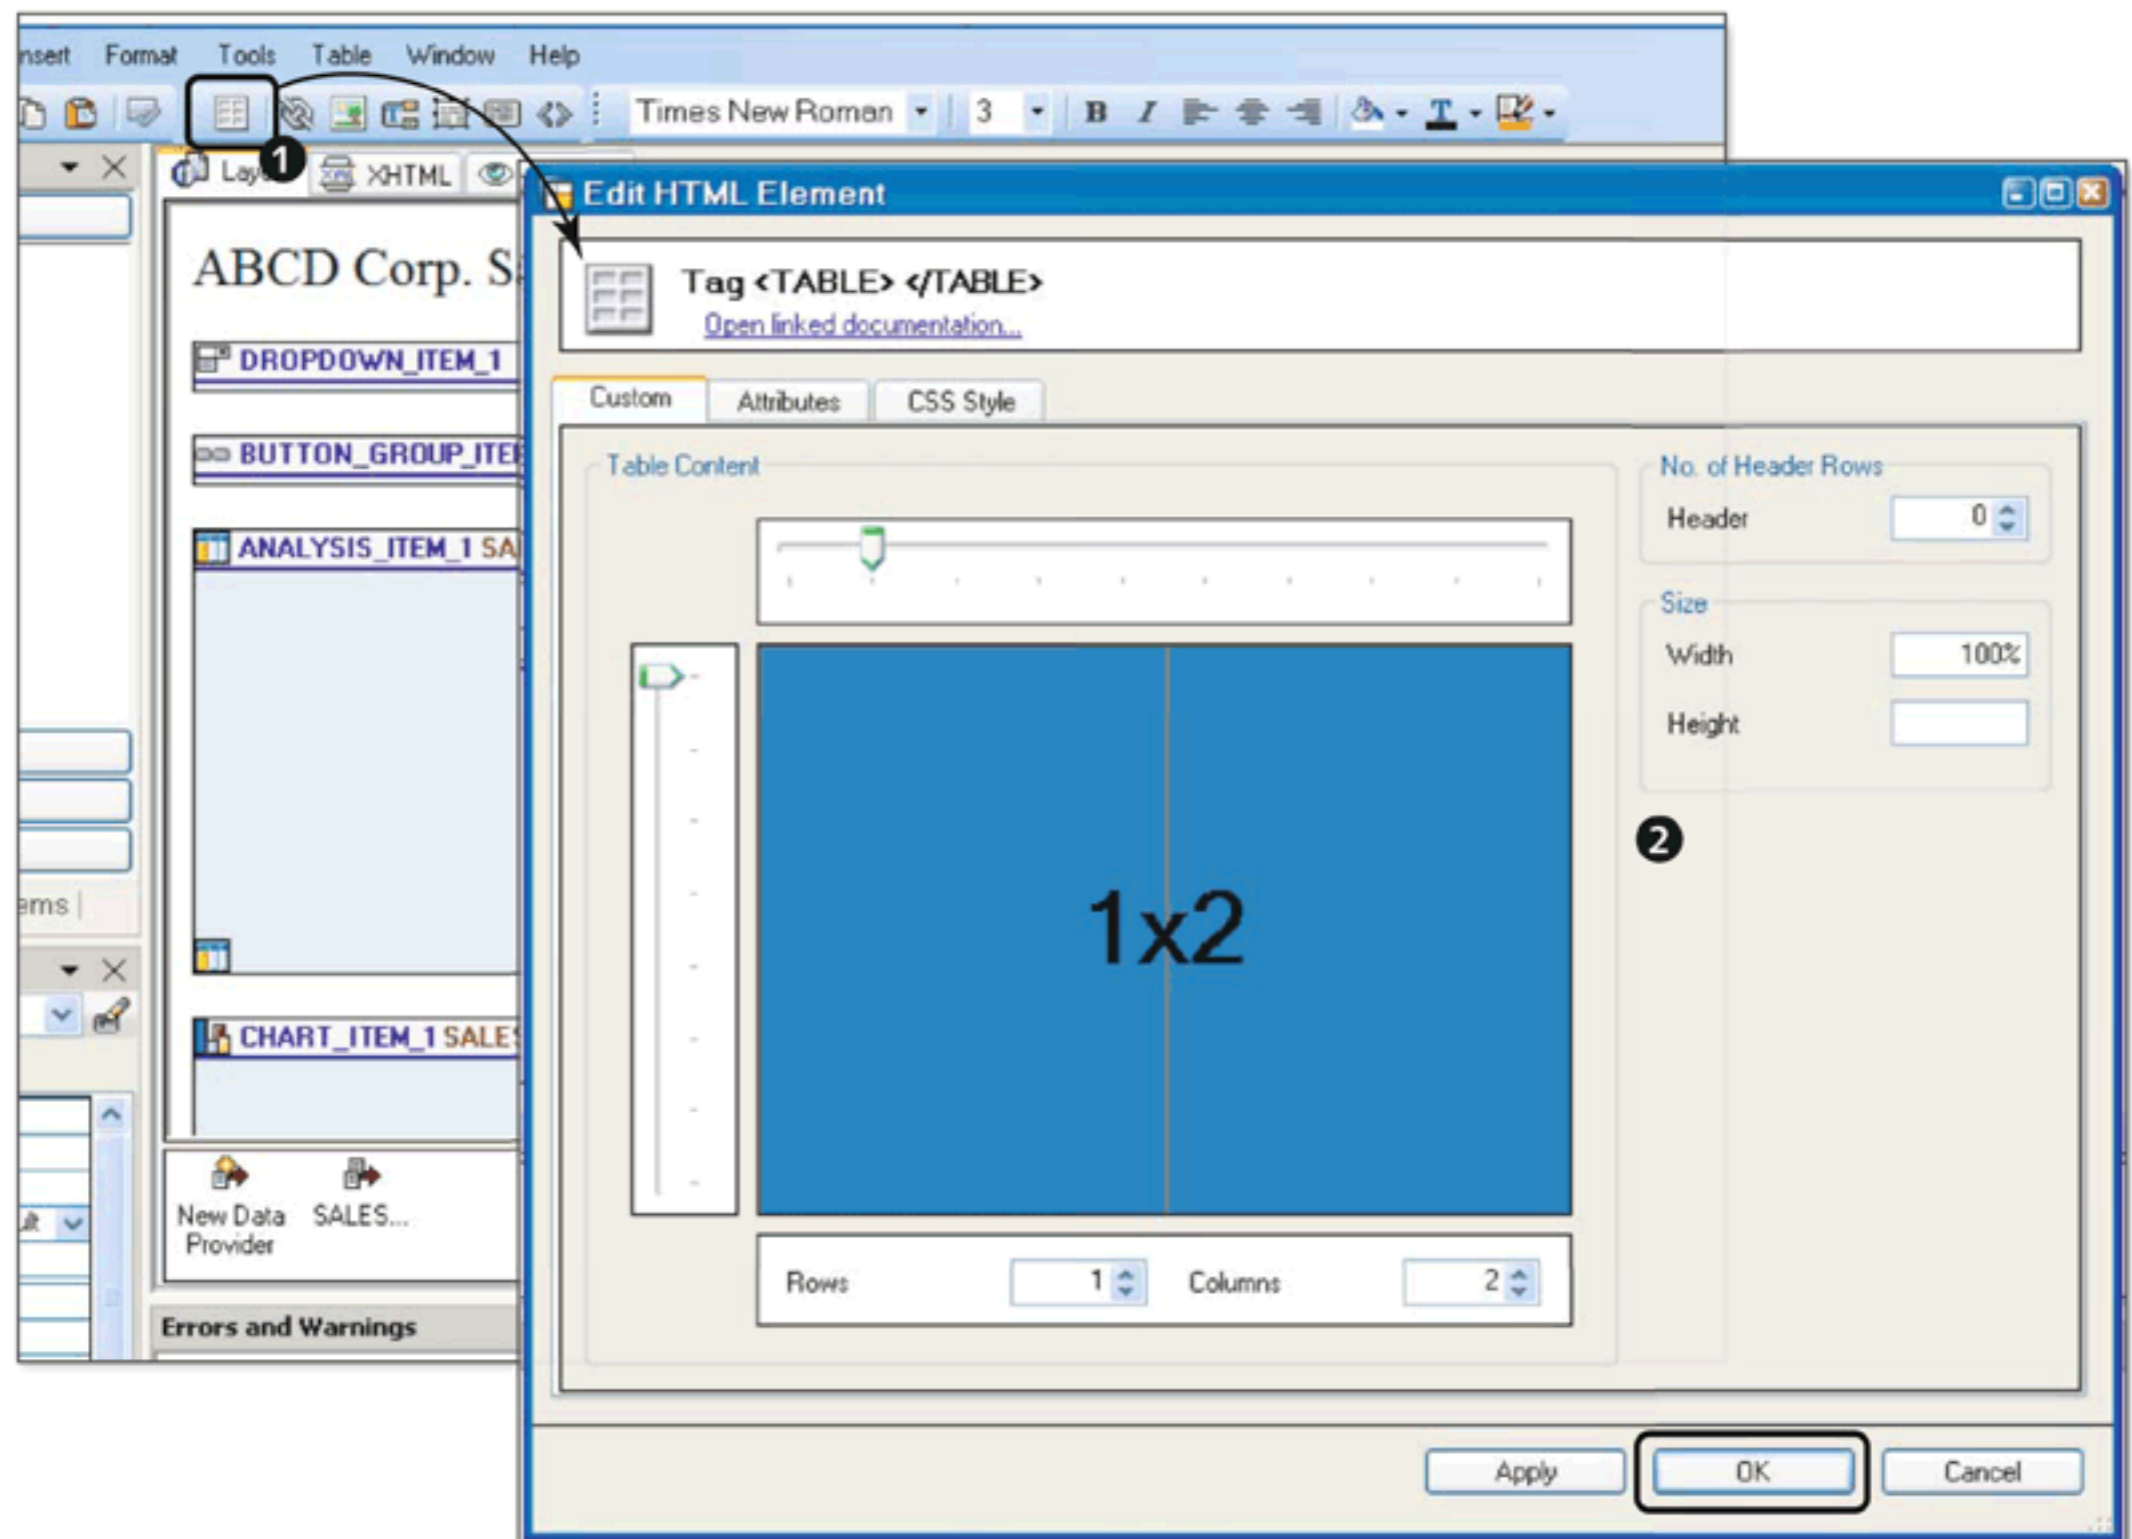

Figure 11.15 Insert Table
To insert a table in the web template, first position the cursor where you want to insert it, and then click on the INSERT TABLE button on the toolbar, as shown in ❶ of Figure 11.15.